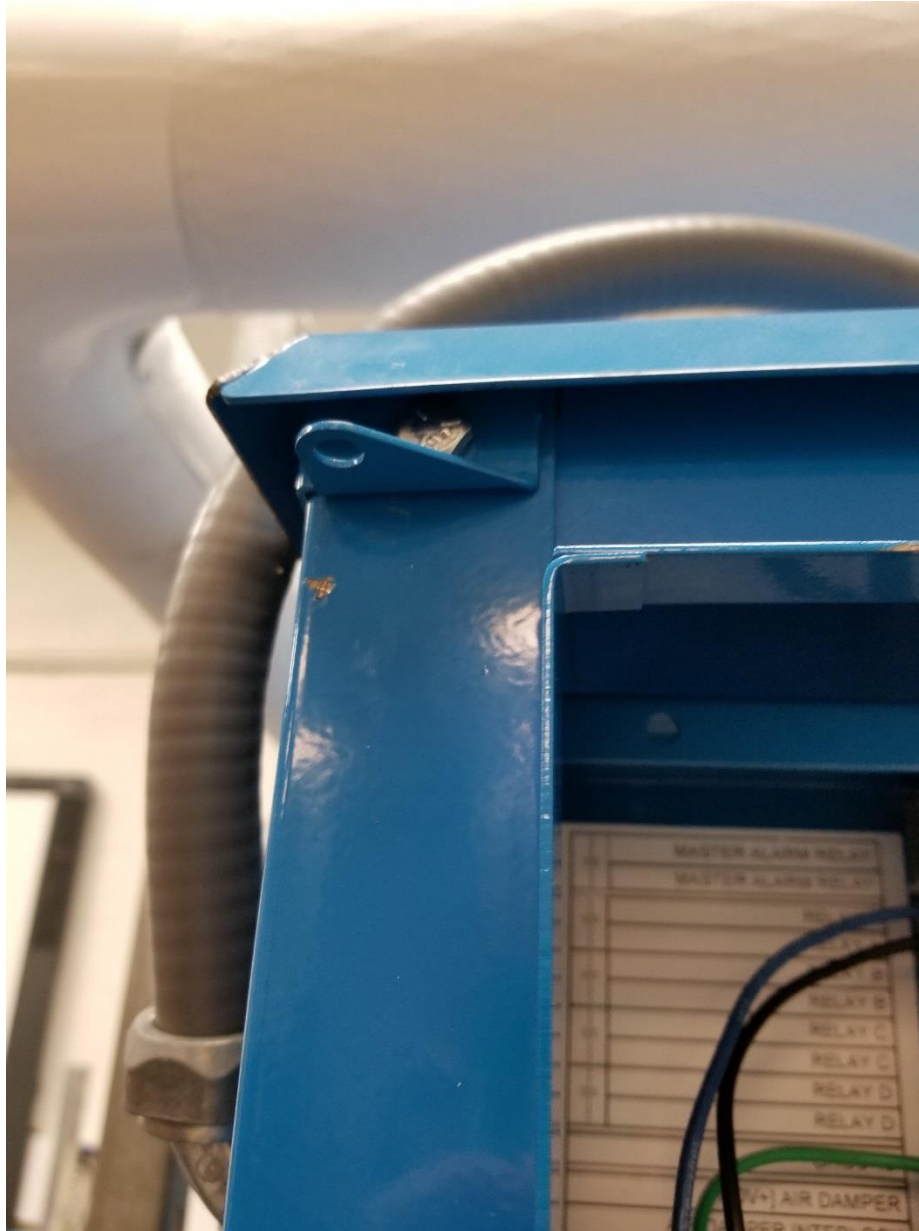

Figure 18
20. Install top bracket with 7/16" nut and bolt shown in figure 18.